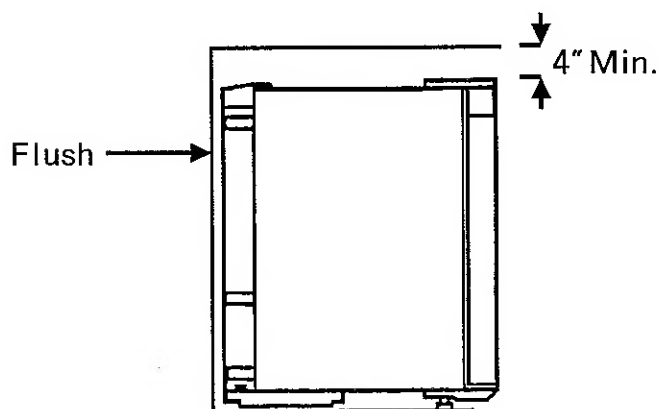
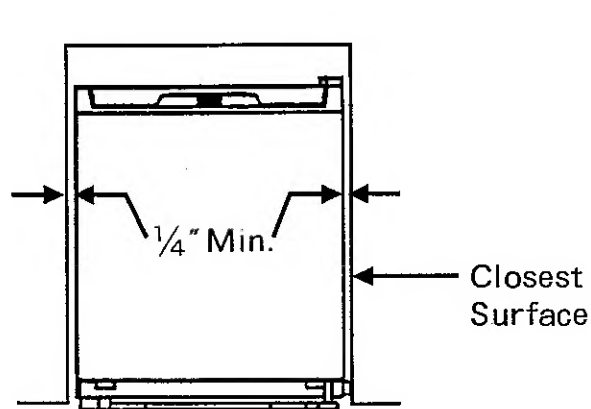

Fig.1
Fig.2
- ④ Fitting the door slide(In case of Fig.1, Fig.2 on page 3).
### ④ Fitting the door slide(In case of Fig.1, Fig.2 on page 3).